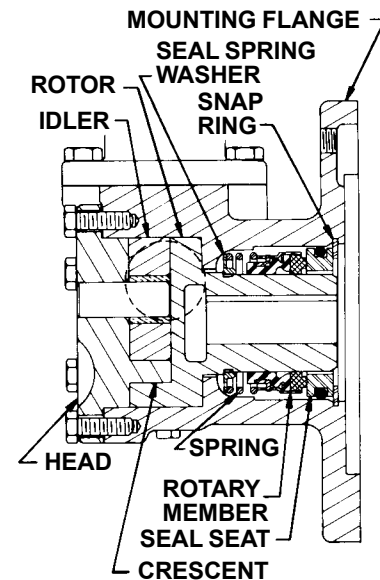

FIGURE 9
To Reassemble Model G475 or GG475 Mechanical Seal Pumps: see Figure 9)
Note the correct position of the idler and crescent (**See Figure 9** and **Disassembly Step 2**). Tighten the head capscrews and then check the end clearance.
- INSTALL THE MECHANICAL SEAL.** Slide the seal spring washer over the rotor hub as far as it will go. Flush the rotor hub and seal housing bore with light oil (not grease) and assemble the spring, rotary member and seat of the mechanical seal in position, refer to **Figure 9**.